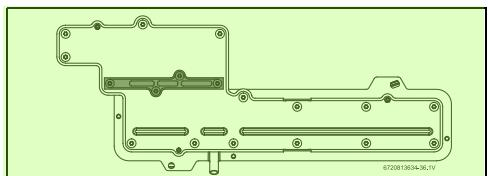

Fig. 48 Gas manifold 29
- ▶ Remove the four screws that retain the cover plate to the gas manifold, see fig. 48 (plate in grey color).